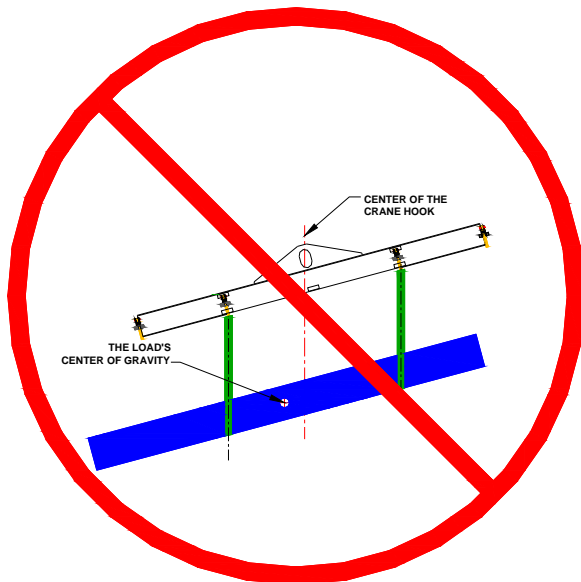

Figure 5
10. See **Figure 5**, The Lifting Beam is not level/horizontal and the load's center of gravity is not in-line with the center of the crane hook, improper lifting.